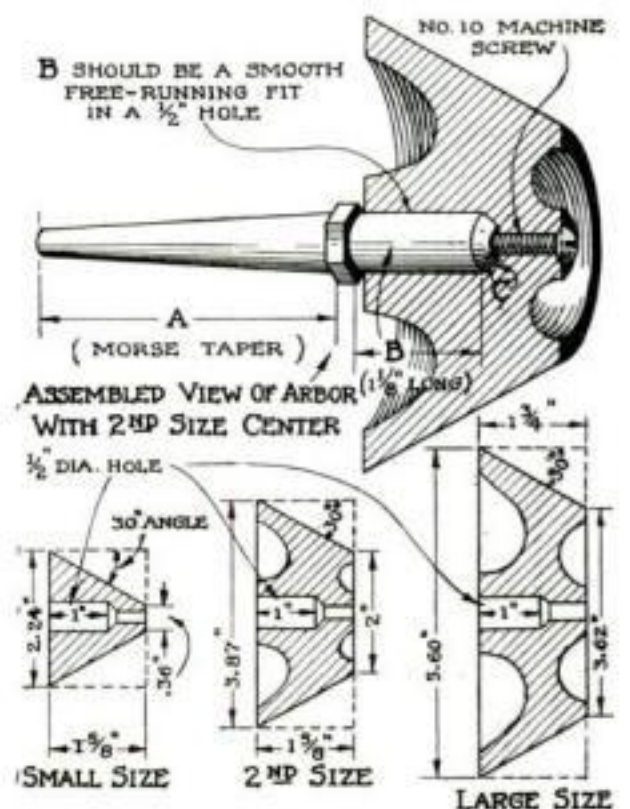

Fig. 4. How the arbor and the three interchangeable cone lathe centers are machined.
**M**ACHINISTS who are called upon from time to time to machine pipe, tubing, or hollow cylinders in the lathe will find that a set of interchangeable cone centers such as shown in Fig. 4 forms a valuable addition to their tool crib.